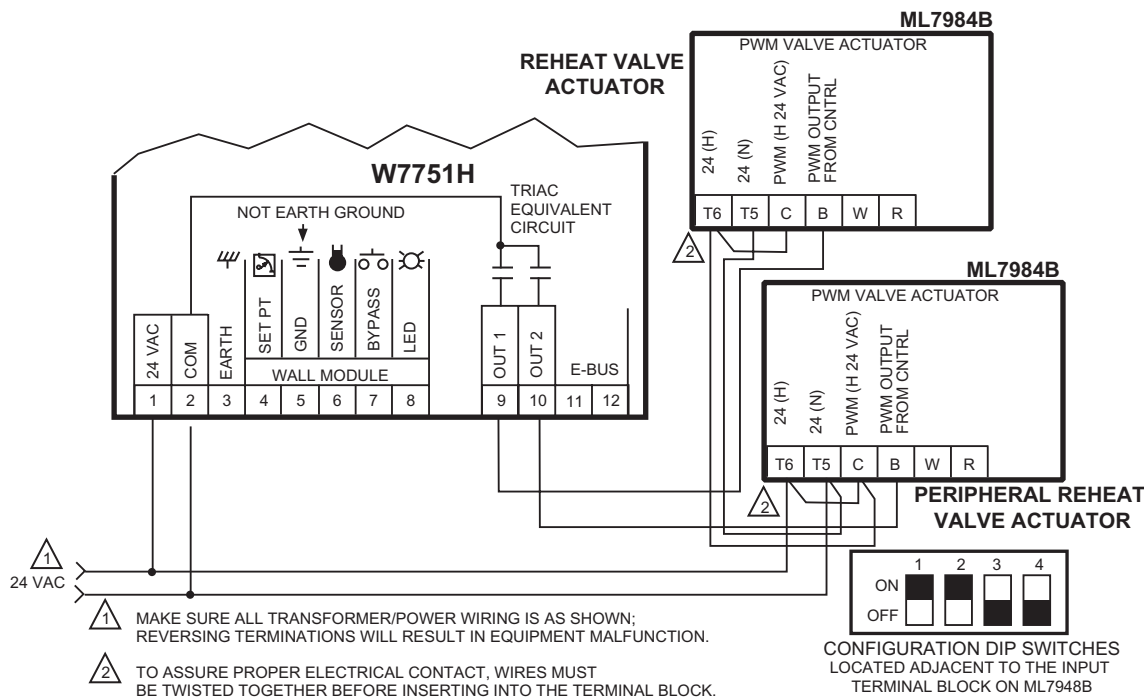

Fig. 20. W7751H to PWM Valve Actuator.
**NOTE:** Ensure Configuration DIP Switch is set as shown in Fig. 20. Switches 1 through 3 set ML7984B Valve Actuator timing to match W7751H outputs (0.1 sec. minimum with maximum time of 25.6 sec.). Switch 4 determines actuator action (Off = Direct Acting, On = Reverse Acting).